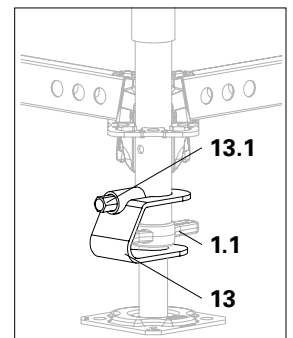

Fig. B.1.01d
5. Secure the base spindles with spindle locking. (Fig. B.1.01d)